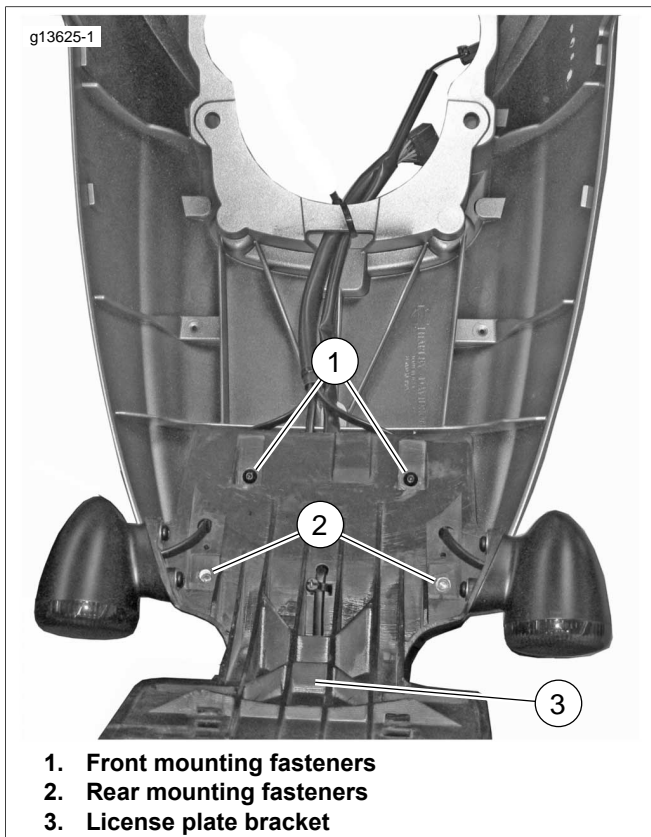

Figure 1. License Plate Bracket (rear fender removed for clarity)
2. See Figure 1. Remove the two rear mounting fasteners (2).
6. Remove the two front mounting fasteners (1). Do not reuse fasteners.